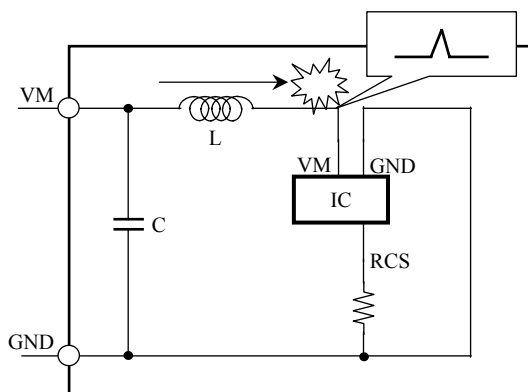
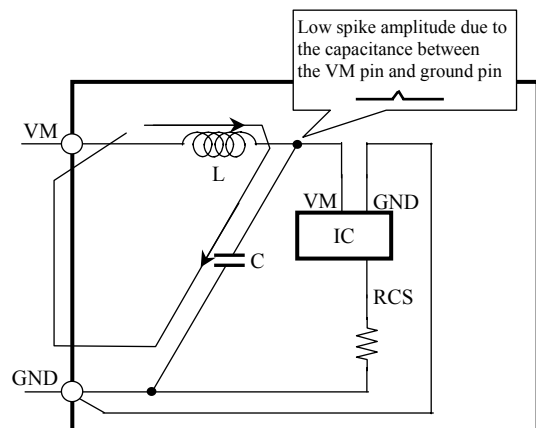

Fig. 4 Depreciated PCB
Fig. 5 Recommended PCB
A high current flows into the line between the VM1 (Pin 1) and VM2 (Pin 15) pins. Therefore, noise is generated with ease at the time of switching due to the inductance (L) of the line, which may result in the malfunctioning or destruction of the IC. (Fig. 4) As shown in the circuit diagram on the right-hand side, the escape way of the noise is secured by connecting a capacitor to the connector close to the VM pin of the IC. This makes it possible to suppress the direct VM pin voltage of the IC. Make the settings as shown in the circuit diagram on Fig. 5 as much as possible.